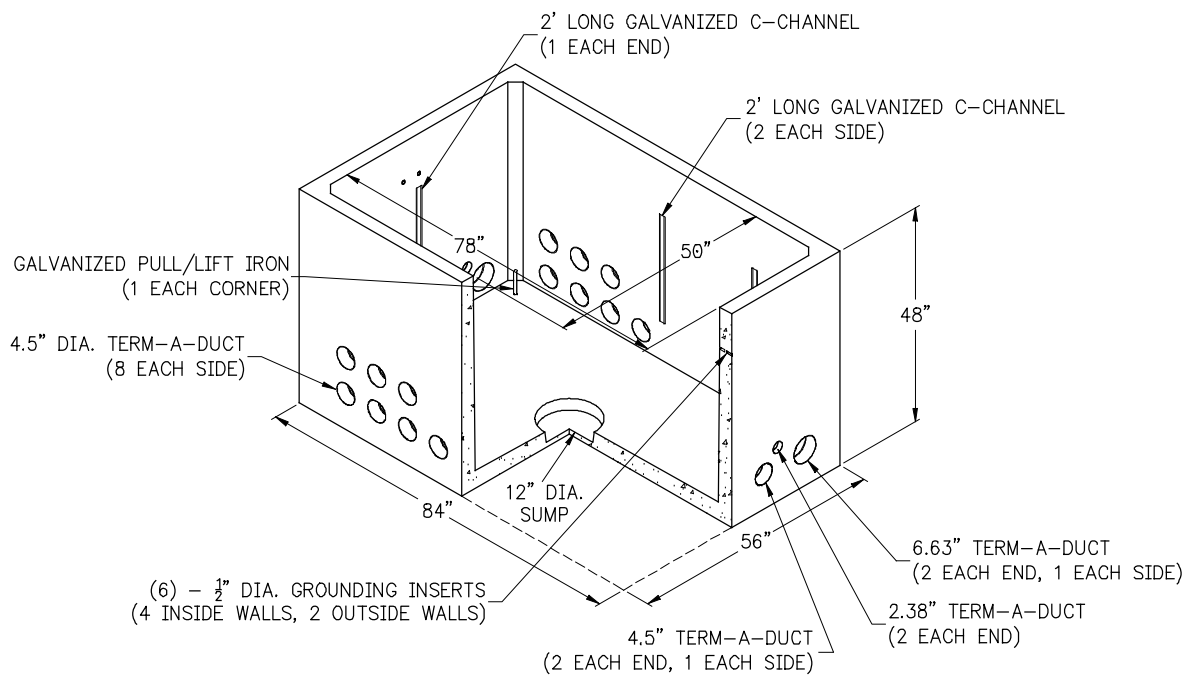
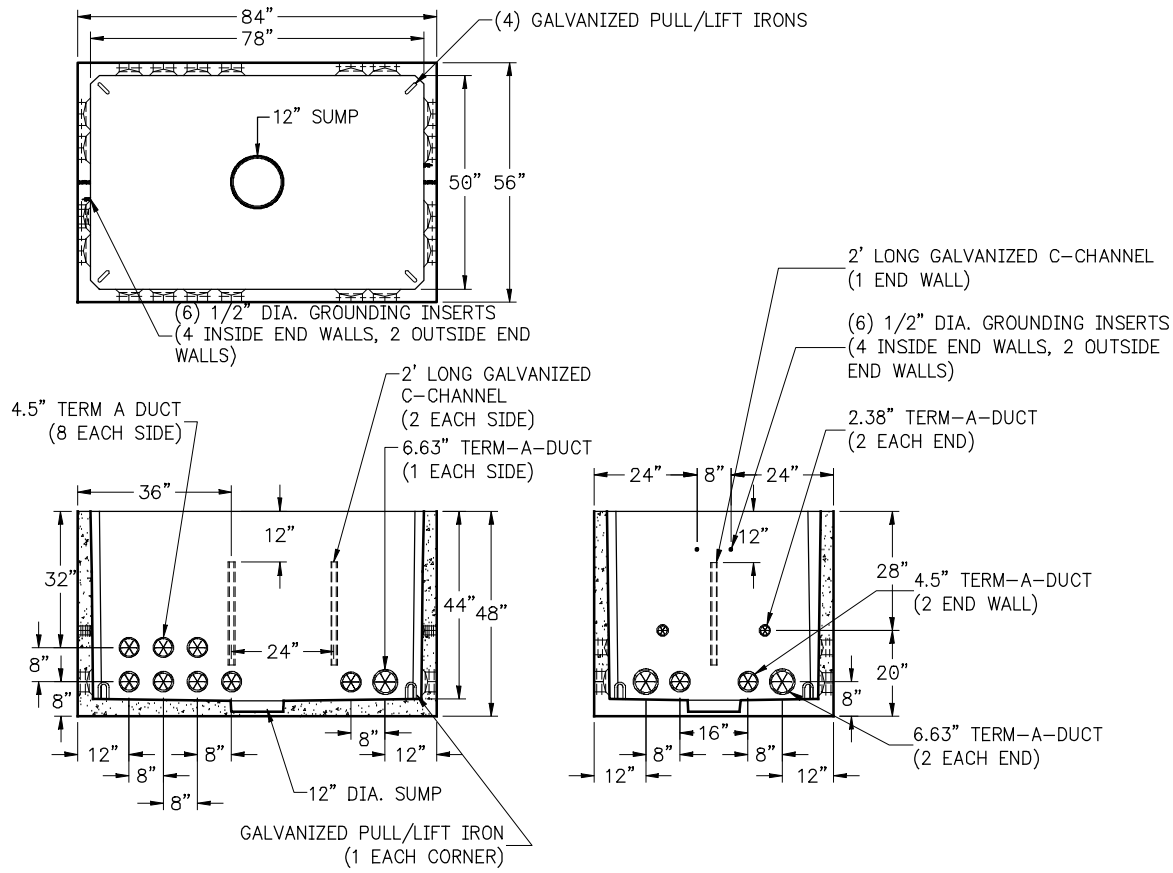

Figure 1—5' x 7' (56" x 84") Vault, Cutaway View
Figure 2—5' x 7' (56'' x 84'') Vault Enclosure Layout
3090369, VAULT, METERING, 3-PHASE, 200A (refer to Figures 1, 2, & 3)
Figure 1 and Figure 2 show the assembled 5' × 7' (56" × 84") vault layout with dimensions. Unless otherwise approved by PacifiCorp engineering, all dimensions and placement of hardware shall conform to those shown in Figure 1 and Figure 2. Vault enclosures shall be constructed to ASTM C857 A-16, and to the holding strengths of the pulling eyes or irons.
The padvault shall be constructed with TERM-A-DUCT or equivalent conduit entrances compatible with PVC, polyethylene (PE), or fiberglass 90°C-rated electrical-grade conduit. The standard conduit entrance locations are as follows, and are also shown in Figure 2: